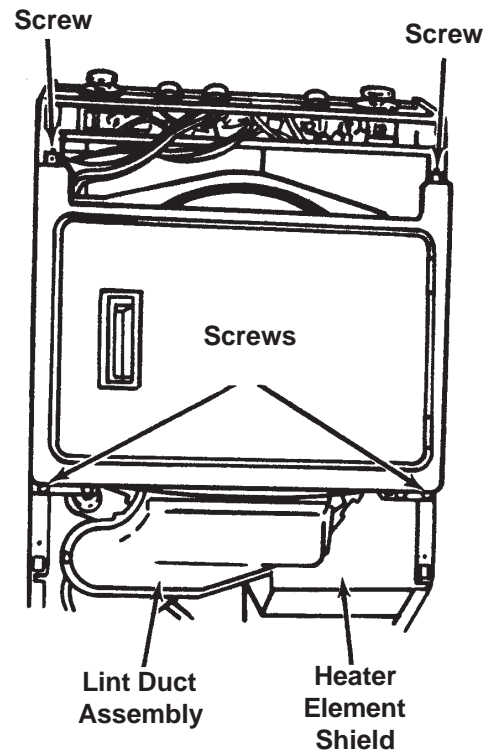

Fig. 5-28
5. Remove the top two (2) retaining screws.
6. Remove the bottom two (2) screws.
8. Remove the three (3) Dryer Lint Duct assembly retaining screws and remove the assembly. (Fig. 5-28)
9. Remove the four (4) heater element shield screws. (Fig. 5-28)